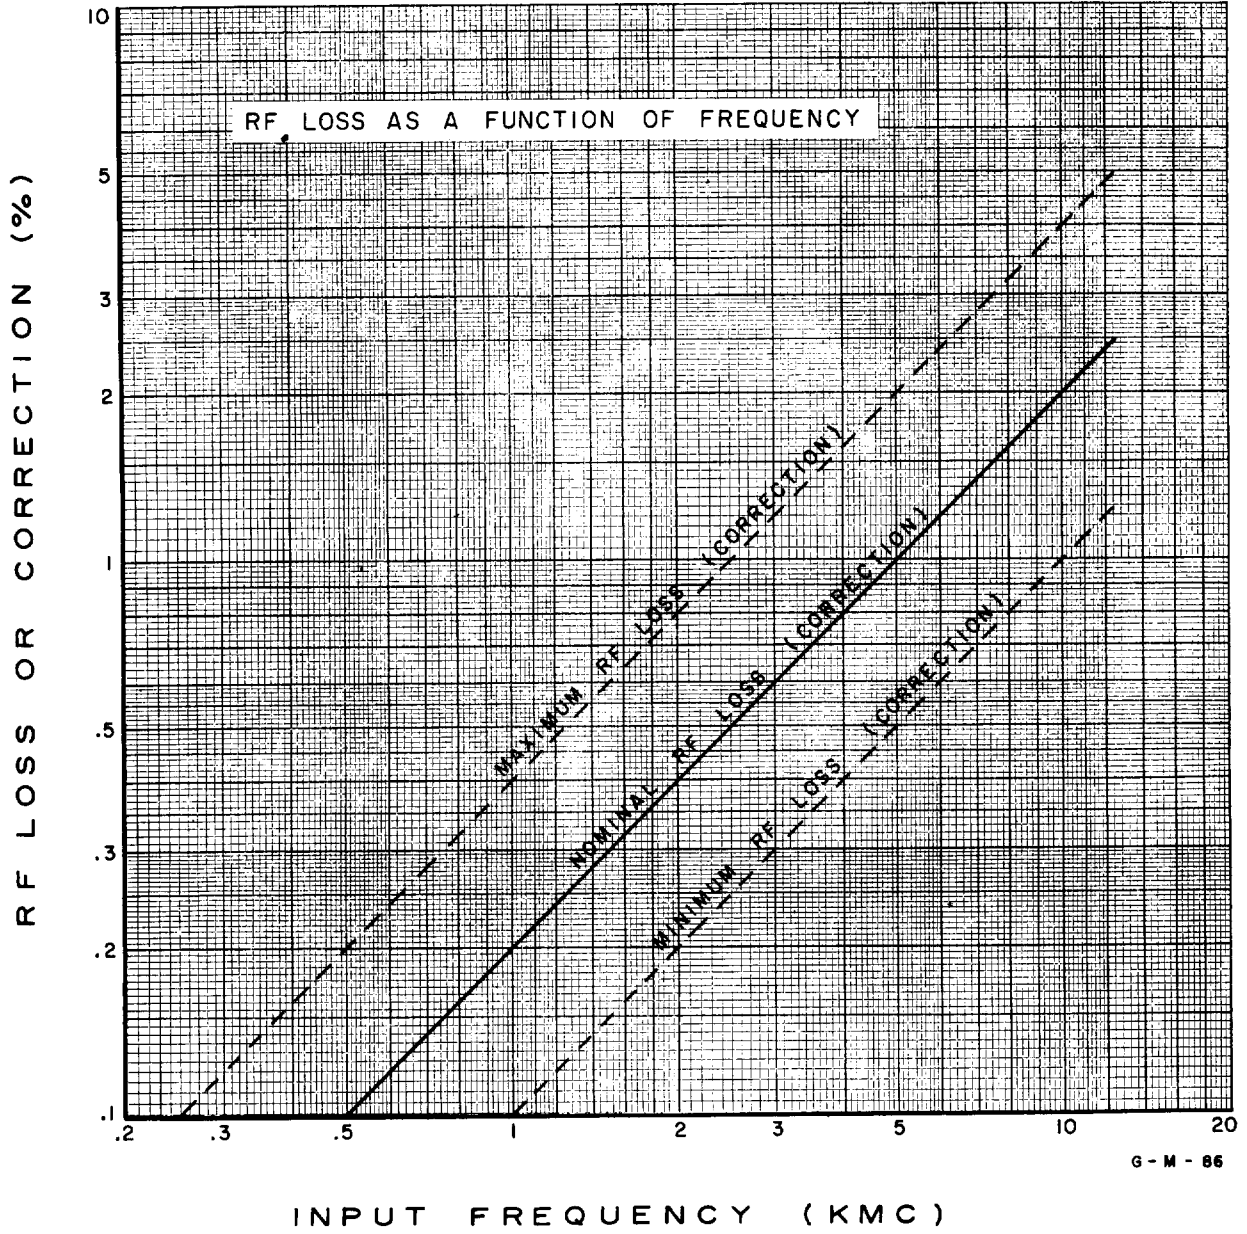

Figure 2-1. RF Loss Showing Probable Limits of Error
(1) Rf loss is meter reading in watts x % loss. Find % loss from figure 2-1, which gives the nominal correction factor and limits of possible error. For example, at 1 gc the nominal correction factor is 0.002, upper limit is 0.0035, and lower limit is 0.001.
(2) To find tuner loss, measure the insertion loss of the tuner at the setting which tunes out the mismatch.
10. Apply power. (See paragraph 2-14 and figure 2-1 to obtain greatest accuracy from the 434A.)